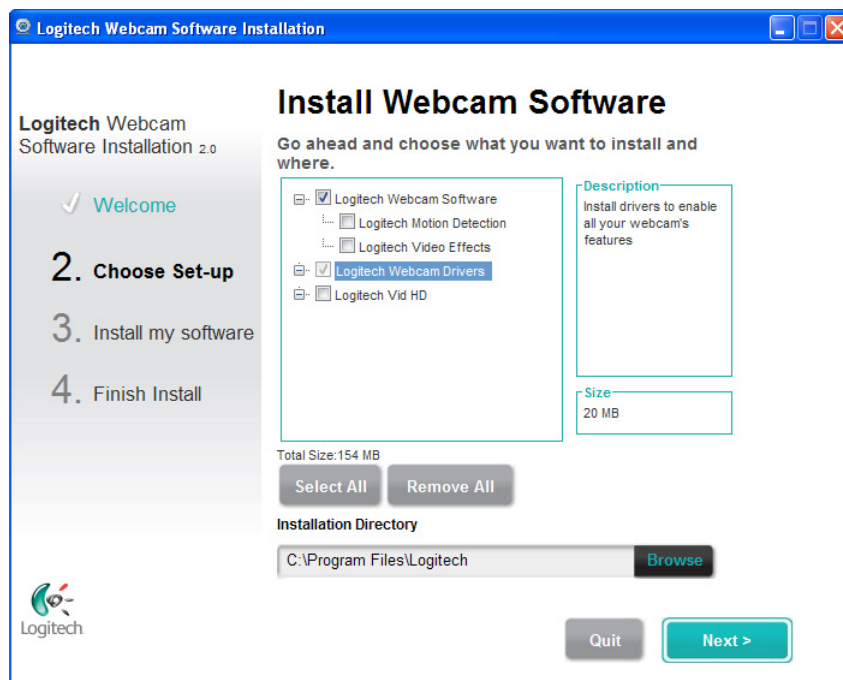

Figure 1. Logitech Webcam Drivers installation window
- 7 On the 'Install Webcam Software' screen (see Figure 1):